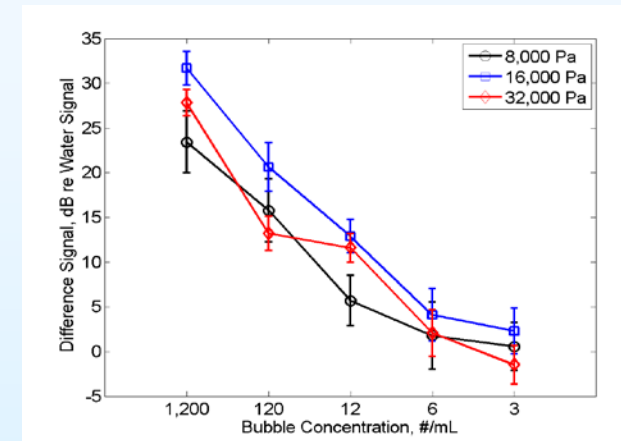

Figure 5. Effect of driving pressure
- In water, a source pressures of 16 kPa resulted in the greatest separation between a positive and negative control while source pressures of 8 kPa resulted in a near-zero difference signal for negative controls (Figure 5)